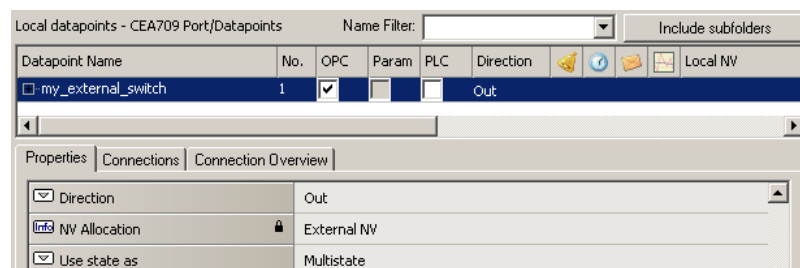

Figure 144: Manually created external NV in the port interface definition.
7. The external NV now appears in the data point list as shown in Figure 144. For external NVs, which are inputs to the device, adapt the poll cycle property to your needs.